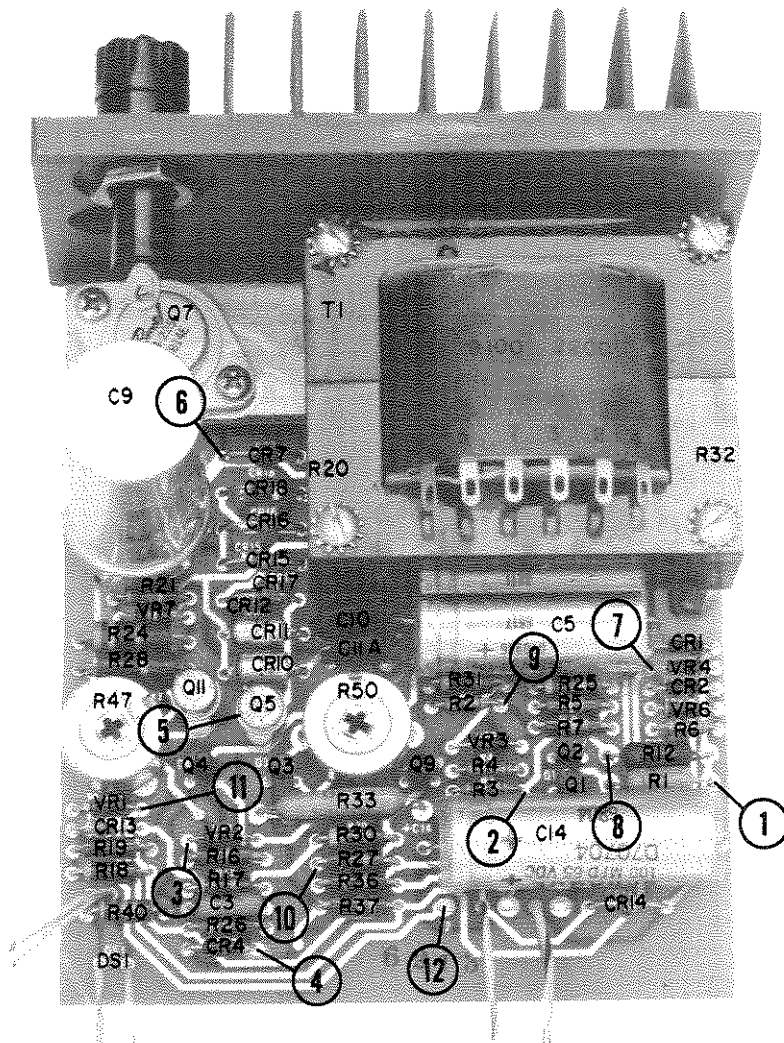

Figure 7-1. Model 6217A
a. Component Location Diagram, Figure 7-1, which shows the physical location and reference designator of parts mounted on the printed